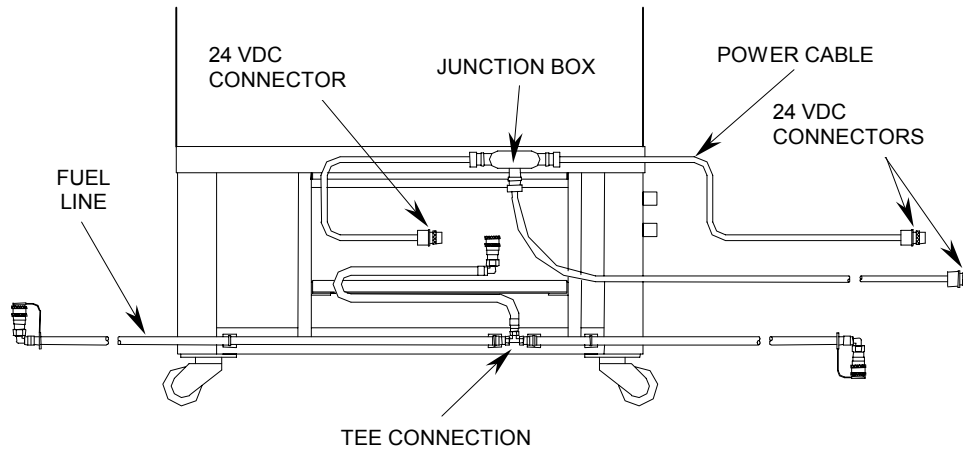

Figure 1. Oven Fuel Line and Power Cable Assemblies.
**Fuel Line:** If the fuel line is inoperable because of a damaged connector or a cut or hole in one of the hose sections, replace the damaged section by disconnecting it and installing a replacement (see Figure 1).
**MBU Cable Assembly:** To replace a section of the 24 VDC cable, remove the junction box cover (see Figure 1). Label and disconnect the wires and pull the cable through the junction box. Cut a new cable to the desired length (WP 0045 00 Item 1) and attach a connector to it. Slip the new cable into the junction box, connect the wires and replace the junction box cover.